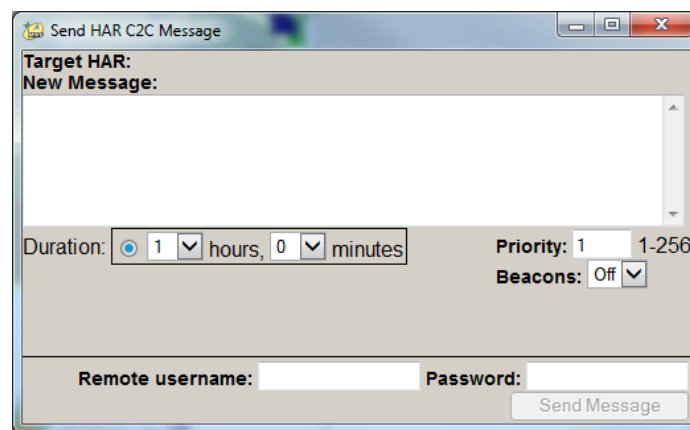

Figure 3-60 – C2C Send HAR Message
- **Send Message:** Selecting this button will cause the C2C Send HAR Message dialog to be displayed; this dialog is shown in Figure 3-60.